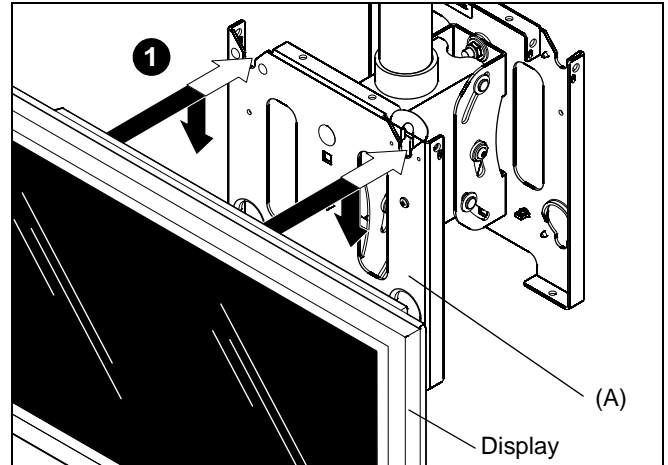

Figure 2
1. While supporting both sides of display, align four mounting buttons on display or interface bracket with four mounting holes in MCD. (See Figures 2, 3 and 4)
2. Lower each display into place listening for audible "click" to ensure recessed area of mounting buttons are properly seated in lower area of mounting holes. (See Fig. 2, 3 and 4)